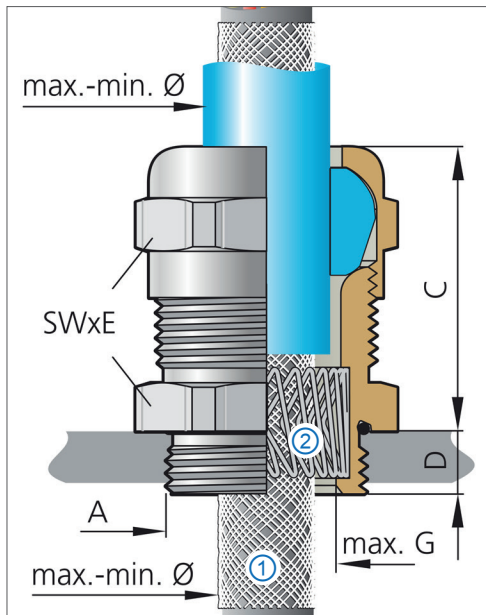

Fig. 7-3: Cable gland (longitudinal section)
To ensure proper contact between the braided shield ① and the triangular spring ② in the cable gland (Fig. 7-3), the cable has to be mounted carefully, so that the position of the stripped cable matches that of the triangular spring.²⁰